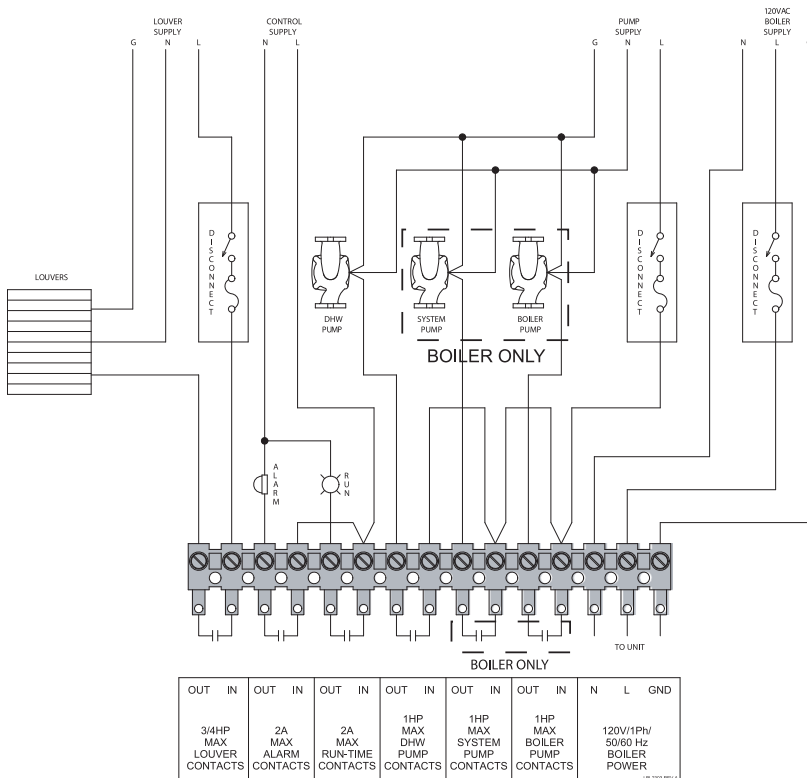

Figure 5-1 Line Voltage Field Wiring Connections
1. Connect 120 VAC power wiring to the line voltage terminal strip in the junction box, as shown in FIG. 5-1.
2. Provide and install a fused disconnect or service switch (15 AMP recommended) as required by the code (see FIG. 5-1).
3. To activate a system pump, wire as shown in FIG. 5-1. If the motor is larger than 1 HP, you must install a contactor.